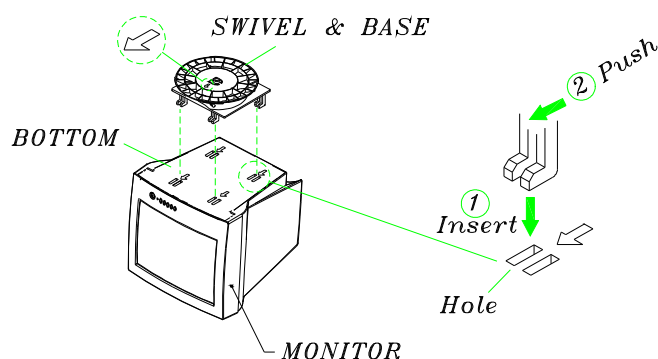

Figure 1
1. Tilt Swivel & Base (refer to figure 1)
- C. Push the tilt swivel and base in the direction of arrow as indicated in Figure 1 to lock the hooks.